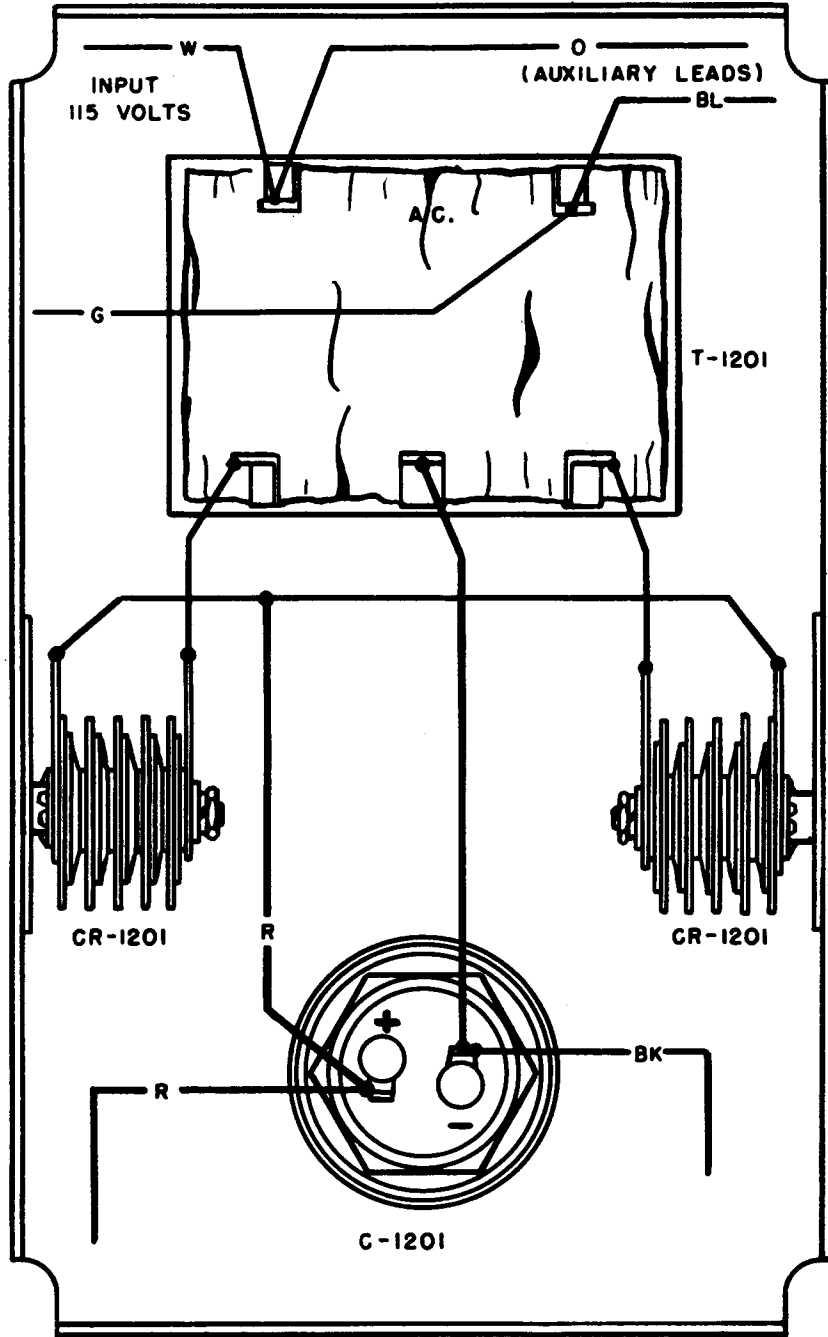

Figure 4-7. Wiring Diagram, Rectifier Assembly
(2) Remove the four mounting nuts and lift the transformer off its plate.
(3) Mount the replacement and wire in accordance with figure 4-7.